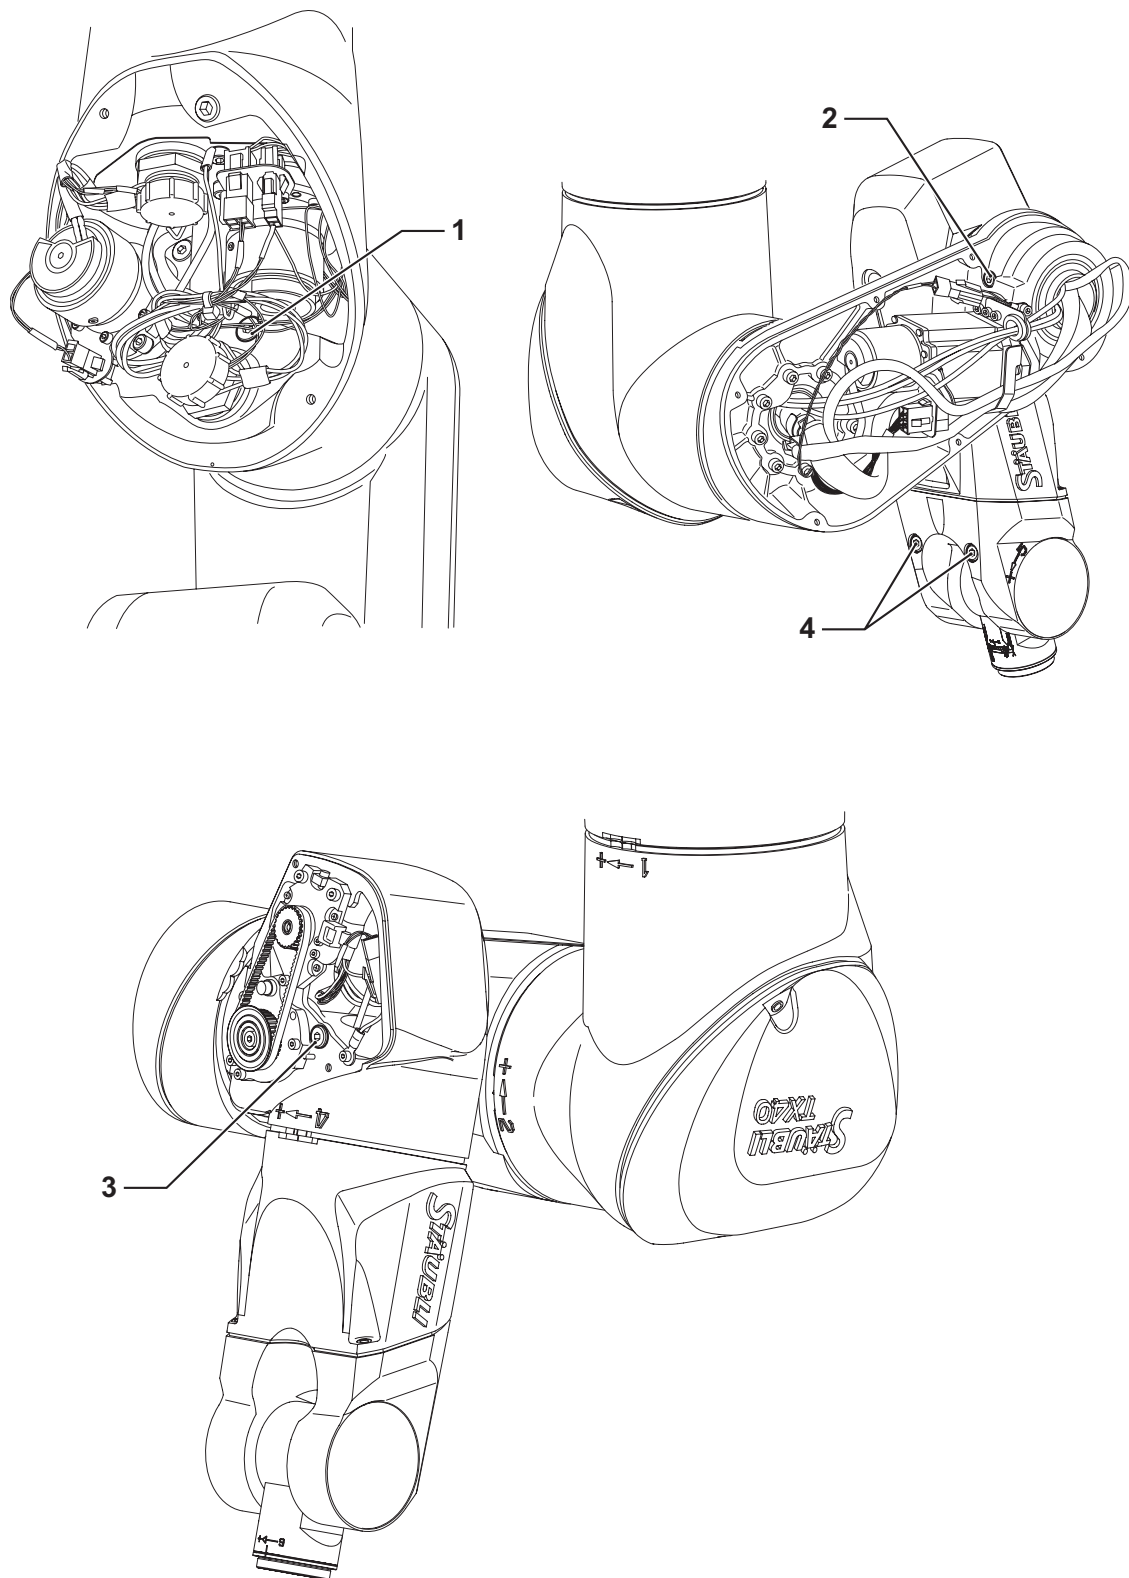

Figure 5.2
5.4.2. ARM IN CEILING-MOUNTED POSITION (figure 5.2)